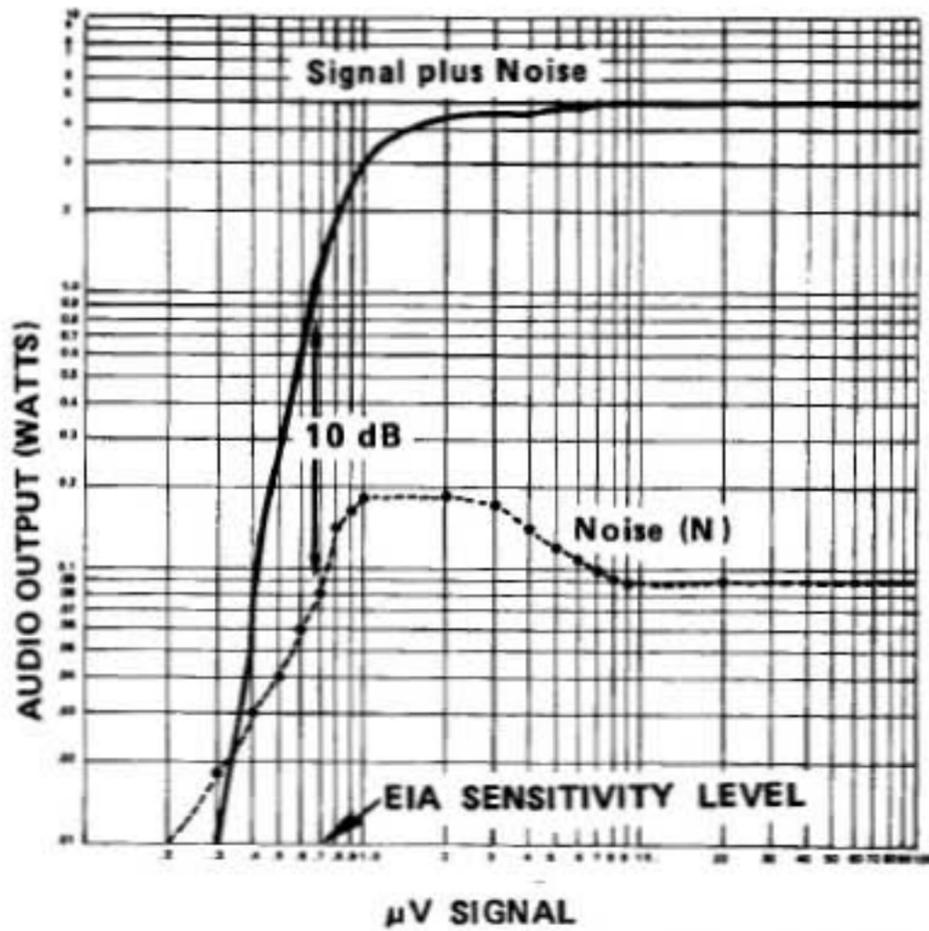
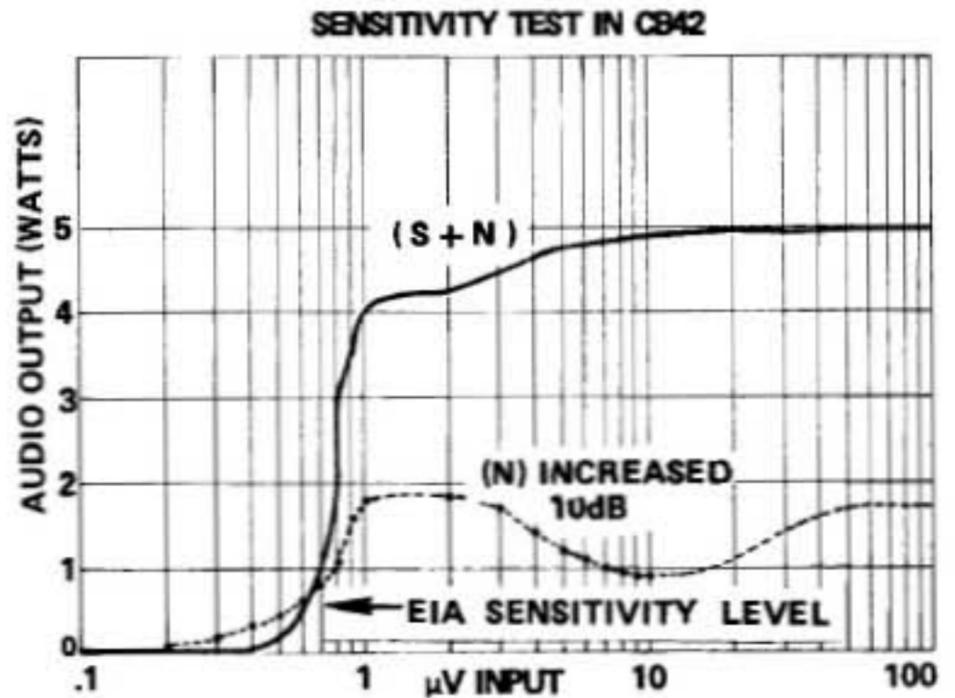

Fig. 28—Typical receiver sensitivity curves showing EIA definition of sensitivity.
Fig. 29—Receiver sensitivity curves with "noise" curve increased by 10 dB.
A typical sensitivity curve is shown in Fig.28 . As the graph shows, the noise figure (dashed line) increases with the input signal until the AGC circuit begins to reduce the receiver's gain, at which point it begins to level off. The Signal Plus Noise (S+N) curve builds more quickly with an increasing input signal, and also levels off due to the limits of the receiver's audio detector circuit. The EIA Sensitivity is the point where these two lines are 10 dB apart, or the (S+N) figure is 10 times the (N) figure.
The graph in Fig.29 shows what happens if the noise curve shown in Fig. 28 is increased by 10 dB. The graph shows that the point where the two lines cross is the same point that gave the sensitivity figure in the preceding graph. This is exactly what the CB42 does. The noise output is increased by 10 dB, so all that is necessary is to find the point where the S+N and N figure read the same on the DIGITAL READOUT.